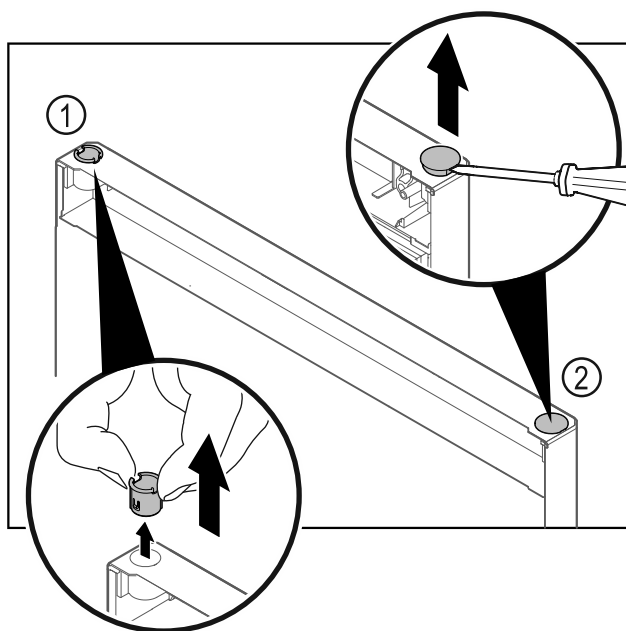

Fig. 39 Freezer compartment door
- ▶ Pull out the hinge bushing *Fig. 39 (1)* with your fingers.
- ▶ Carefully lift the cover plug *Fig. 39 (2)* with a slotted screwdriver and pull it out.